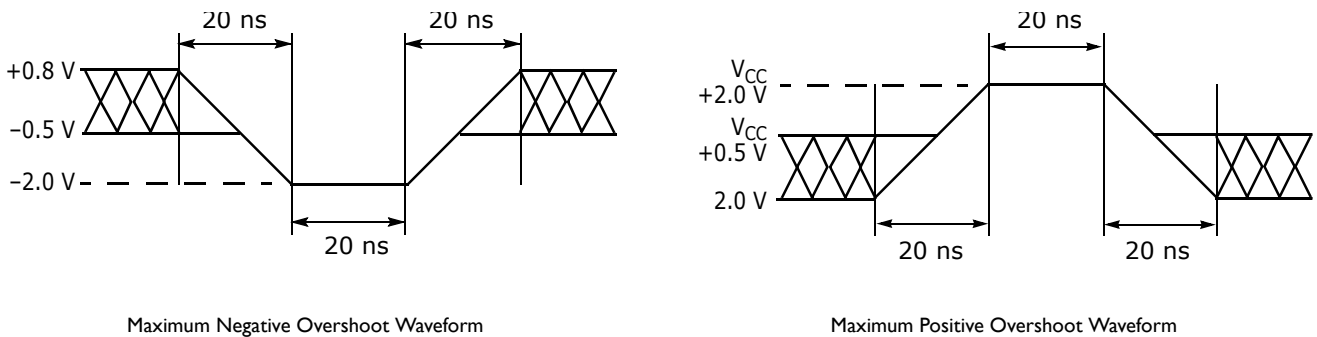

Figure 8. Maximum Overshoot Waveforms
1. Minimum DC voltage on input or I/O pins is -0.5 V. During voltage transitions, input or I/O pins may overshoot V_{SS} to -2.0 V for periods of up to 20 ns. Maximum DC voltage on input or I/O pins is $V_{CC} + 0.5$ V. During voltage transitions, input or I/O pins may overshoot to $V_{CC} + 2.0$ V for periods up to 20 ns. See Figure 8.
2. Minimum DC input voltage on pins A9, OE#, RESET#, and WP#/ACC is -0.5 V. During voltage transitions, A9, OE#, WP#/ACC, and RESET# may overshoot V_{SS} to -2.0 V for periods of up to 20 ns. See Figure 8. Maximum DC input voltage on pin A9, OE#, and RESET# is +12.5 V which may overshoot to +14.0 V for periods up to 20 ns. Maximum DC input voltage on WP#/ACC is +9.5 V which may overshoot to +12.0 V for periods up to 20 ns.